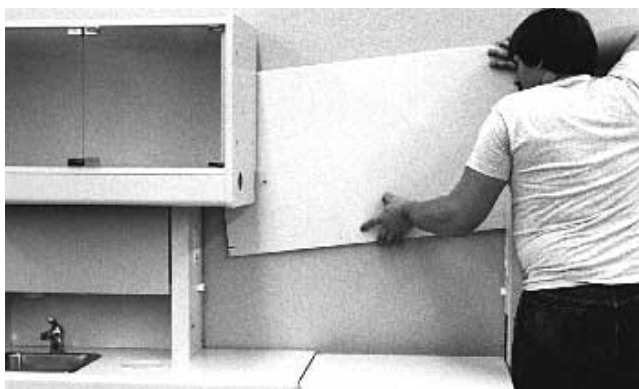

FIGURE 14
3. Slide the back, with the screws facing away from the wall, behind the column and into position between the upper and the column (see Figure 14).